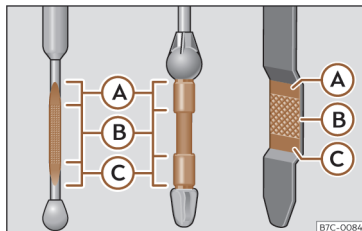

Fig. 217 Engine oil dipstick.
Key to the >>> Fig. 217:
• Then pull it out again and check the oil level >>> **Fig. 217**. Top up with engine oil if necessary.
- When the oil level reaches at least zone >>> **Fig. 217 (B)**, carefully screw on the engine oil filler cap >>> .